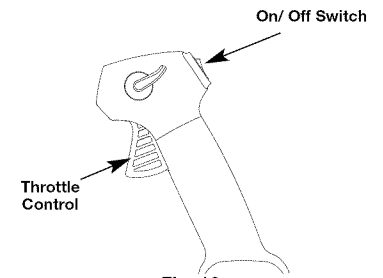

Fig. 12
NOTE: There is no need to turn the unit on. The On/Off Control is in the ON (I) position at all times (Fig. 12).
- Press and hold the On/Off switch in the OFF (O) position until the unit comes to a complete stop (Fig. 12).
- NOTE:** There is no need to turn the unit on. The On/Off Control is in the ON (I) position at all times (Fig. 12).